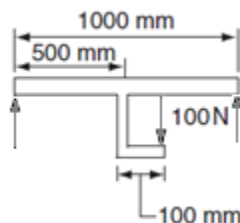

Figure 24 Question 40.
40. In a simply supported beam loaded as shown in Figure 24, the maximum bending moment in N m is: